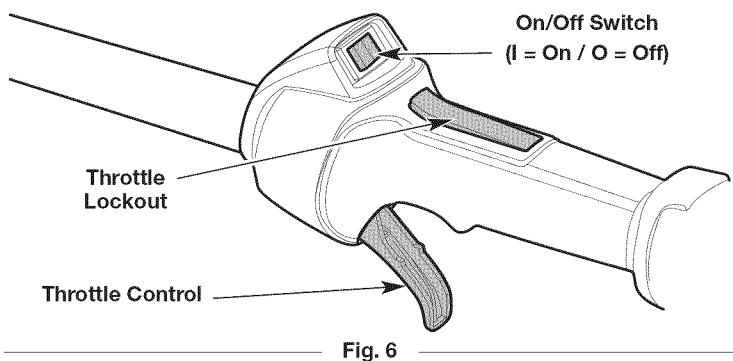

Fig. 6
- NOTE:** There is no need to turn the unit on. The On/Off switch is in the **On (I)** position at all times (Fig. 6).
4. **DO NOT** squeeze the throttle control until step 8 (Fig. 6).
8. Press and hold the throttle lockout (Fig. 6). Squeeze the throttle control as needed for operation (Fig. 6).
2. Press and hold the On/Off switch in the **Off (O)** position until the engine comes to a complete stop (Fig. 6).